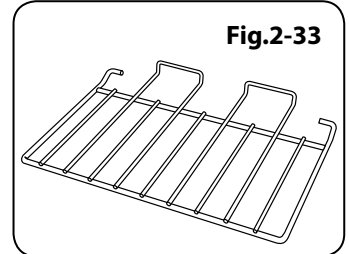

Fig.2-33
- Three energy saving shelves (Fig.2-33)